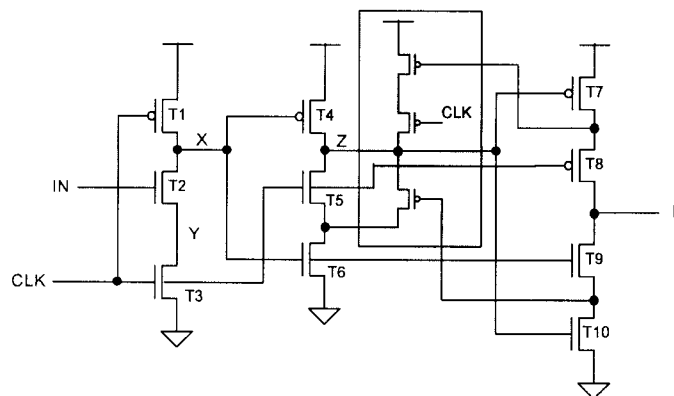

Figure 5.3
- c) What is the effect of adding the shaded circuit to the latch as shown in Figure 5.3?